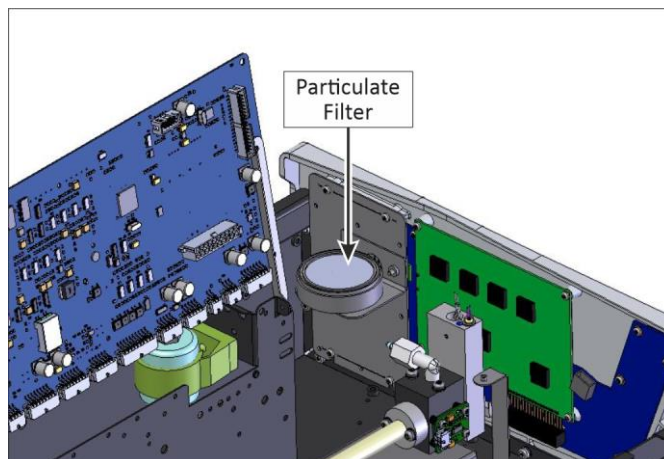

Figure 130 – Particulate Filter
6. Refer to Figure 130. Remove the old particulate filter.